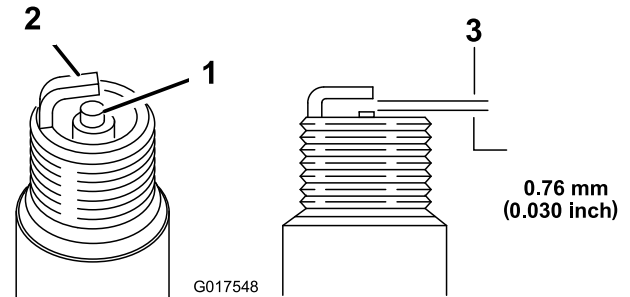

Figure 22
5. Set the gap on the plug to 0.76 mm (0.030 inch) (Figure 22).